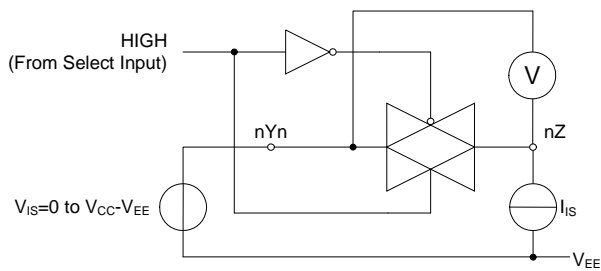

Figure 7. Test Circuit for Measuring R_{ON}
**Dual 4-channel Analog Multiplexer/Demultiplexer****AZ4052****Electrical Characteristics (Continued)****Resistance R_{ON}** V_{IS} is the input voltage at pins nYn or nZ, which is assigned as an input ((note 4) see figure 7)